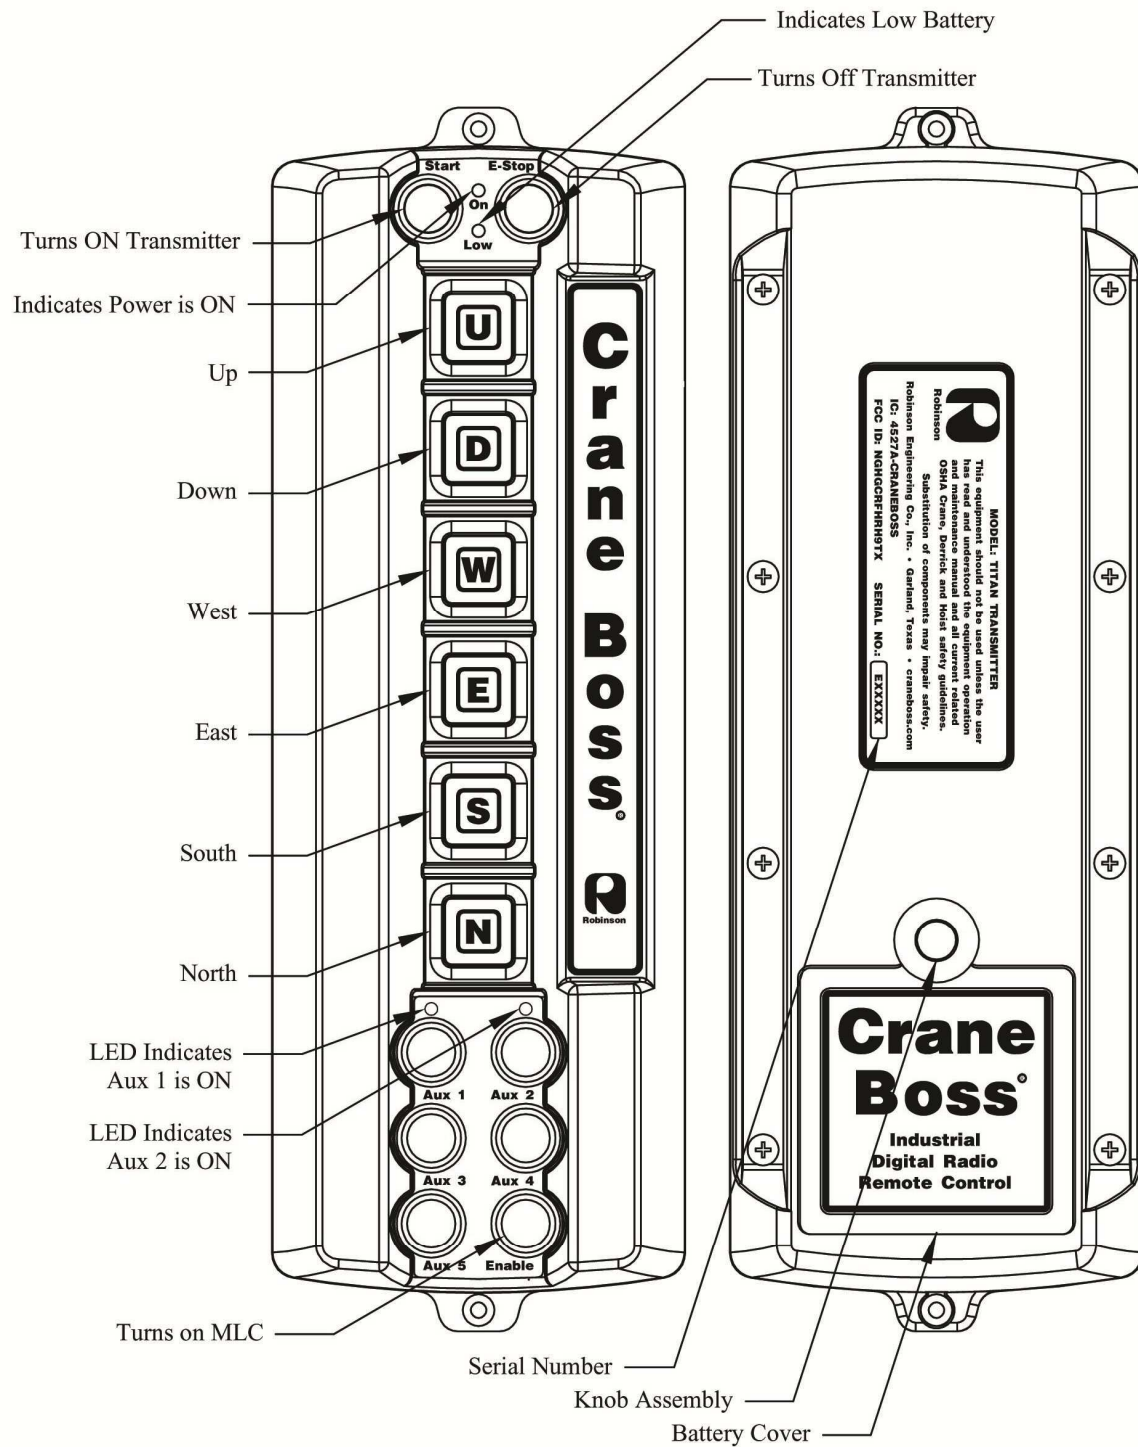

Fig 5-1(T5): Transmitter External Components
5.2.2 Transmitter - (See Block Diagram, Transmitter, Fig. 3-1(T), and Transmitter Components Fig. 5-1(T5)).